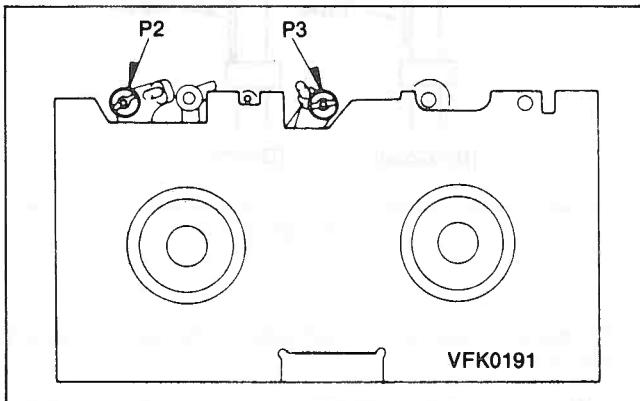

Figure M11
2. Place the Post Adjustment Plate over the reel tables. Confirm that the Post Adjustment Plate is firmly seated as shown in Figure M11.